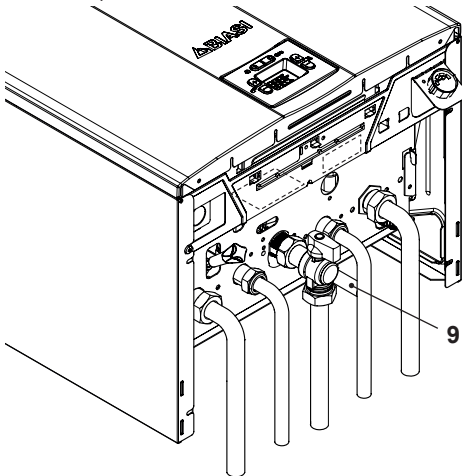

Figure 5.4
- Connect the safety valve discharge 9 (Figure 5.4) to an outlet funnel.